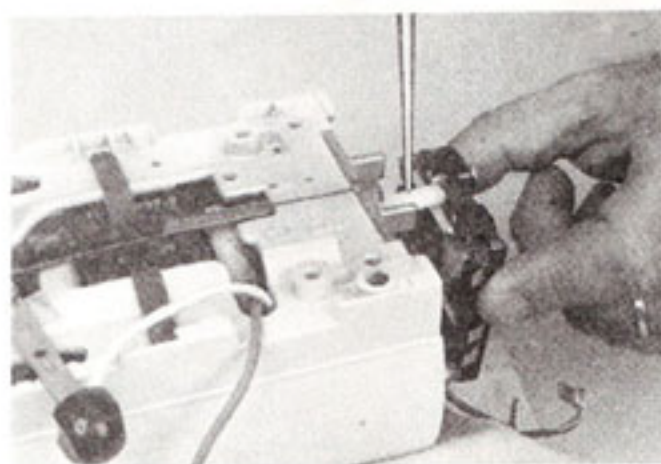

Fig. 50
- O. Place the control plate on the bearing with adjusting screws at the top (Fig. 50). Turn in the screws until about  $\frac{3}{8}$ " of the screw remains. Have both screws turned in evenly so the opposite end of the control plate rests squarely on the extensions on the bearing bracket.